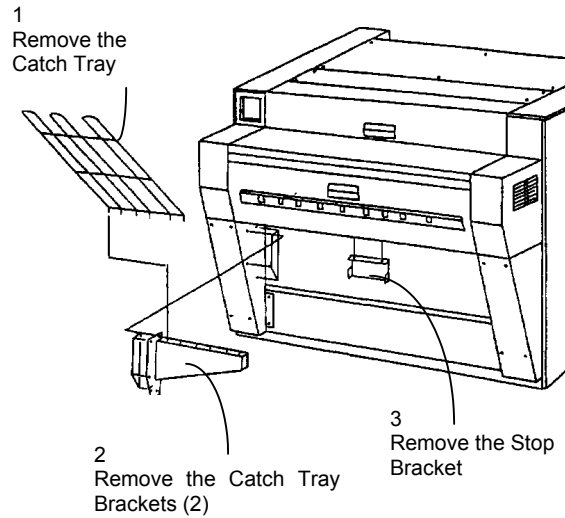

Figure 1. Removing the Existing Catch Tray Assembly
2. (Figure 1): Remove the Catch Tray, Catch Tray Brackets and the Stop Bracket from the rear of the 721P/8855. These items should be retained by the customer.